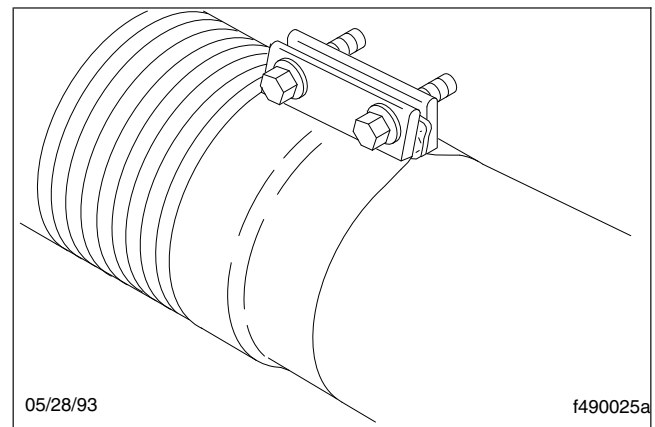

Fig. 8, Donaldson Sealclamp Wide-Band Exhaust Clamp
8. Check for leakage at all wide-band exhaust clamps. See Fig. 8.